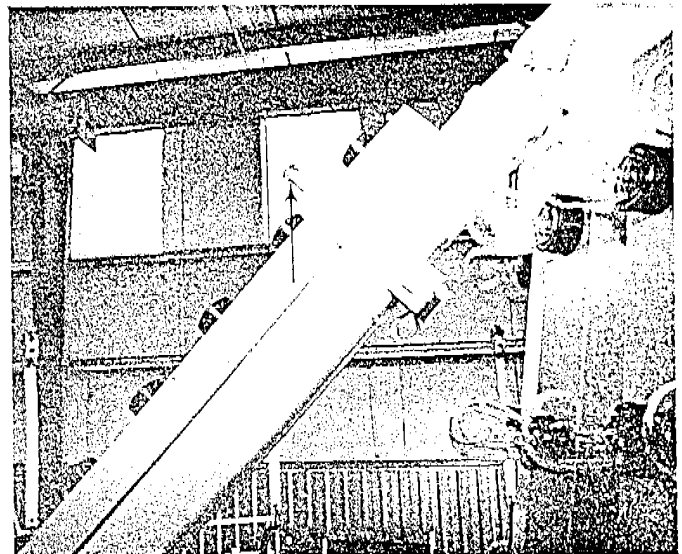

Fig. 58
- d. Replace the clamp to the same area on the brace. *Pin and Snap Key in Place.* Tighten the top set screw until it meets the aluminum light strip. **CAUTION:** Do not tighten too much, causing damage to the aluminum strip. (Fig. 58)
- b. Replace the clamp to the same area on the brace. *Pin and Snap Key in Place.* Tighten the top set screw until it meets the aluminum light strip. **CAUTION:** Do not tighten too much, causing damage to the aluminum strip. (Refer to Fig. 58)